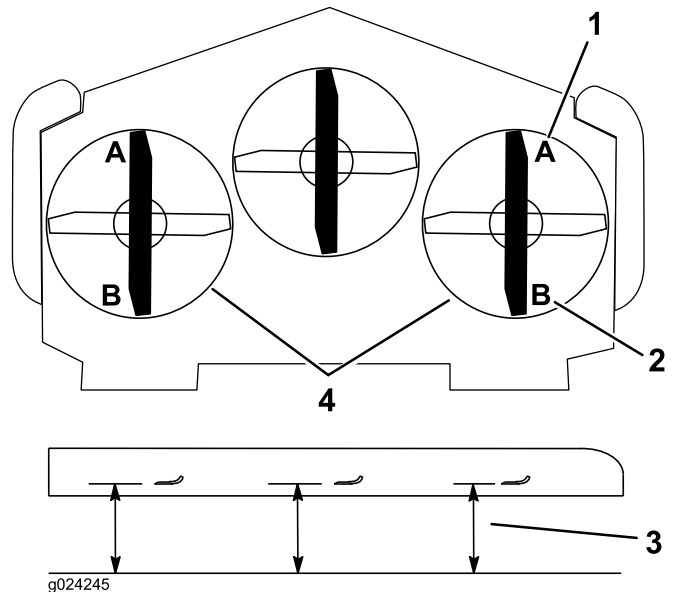

Figure 91
8. On both sides of the deck, measure from the level surface to the front tip of the blade (Position A). Ensure the measurement is 7.6 mm (3 inches) (Figure 91).
14. On both sides of the deck, measure from the level surface to the back tip of the blade (Position B). Ensure the measurement is 8.3 cm (3-1/4 inches) (Figure 91).